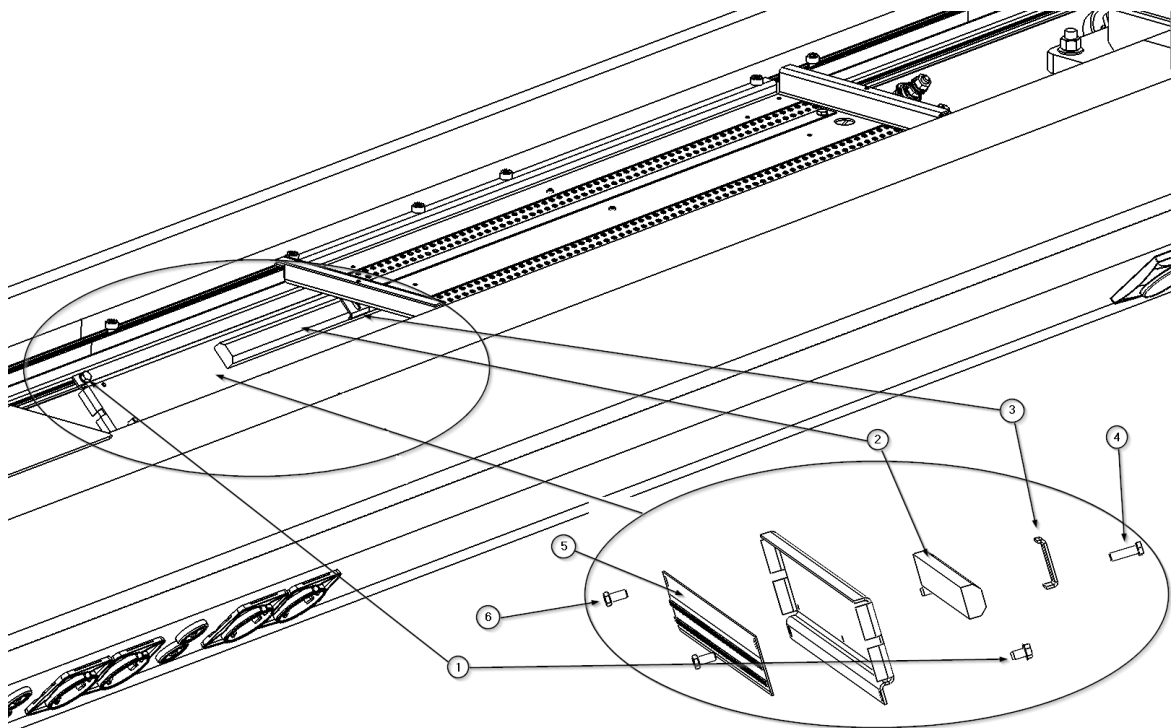

Fig.5 Substitution of direct light
- To increase the braking force on the rotation axis, turn the rotation brake lever clockwise as shown in figure 5.
- To reduce the braking force on the rotating shaft, turn the rotation brake lever counterclockwise, in the opposite direction to that shown in figure 5.
- To increase the braking force on the drive shaft, turn the rotation brake lever clockwise as shown in figure 5.
- To reduce the braking force on the drive shaft, turn the rotation brake lever counterclockwise, in the opposite direction to that shown in figure 5.